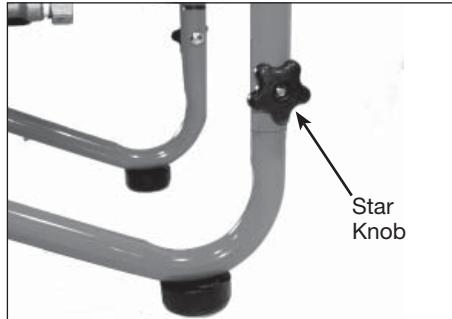

Figure 4 - Assemble handle
- Slide the handle assembly over the lower legs of the cart base. Use the (supplied) star knob and bolts to secure the handle to the legs (See Figure 4).